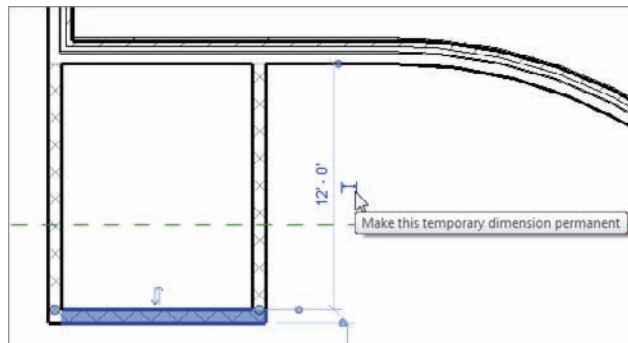

FIGURE 2.27 You can make temporary dimensions permanent.
6. To the right of the dimension, you see a small blue icon that also looks like a dimension. If you hover your mouse over it, a tooltip appears, indicating that you can make the temporary dimension permanent, as shown in Figure 2.27. When you see this tooltip, click the icon.